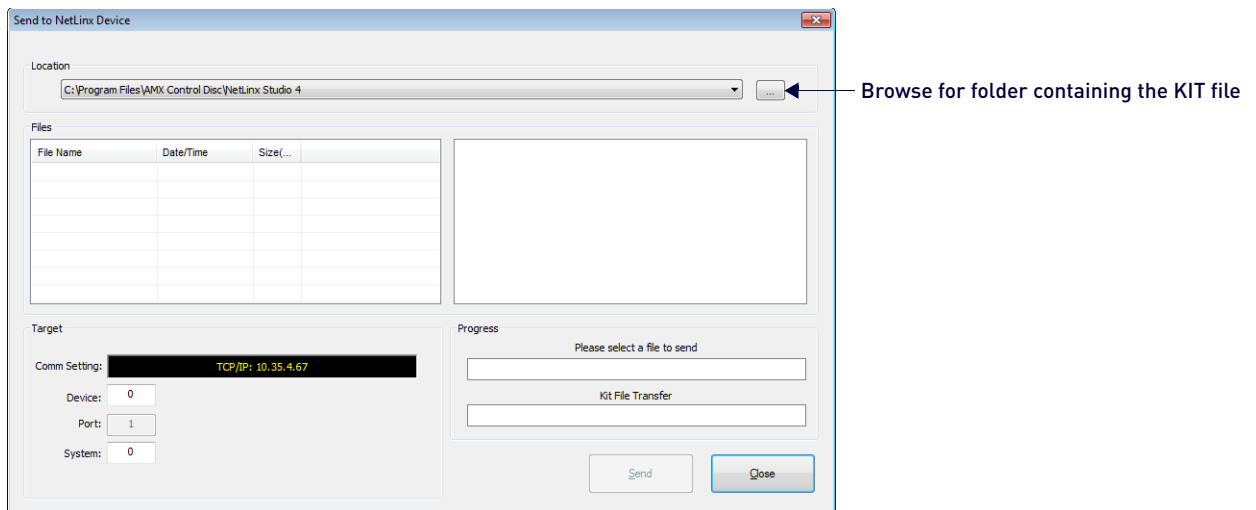

FIG. 122 Send To NetLinx Device dialog (NetLinx Studio)
2. In NetLinx Studio, choose **Tools > Firmware Transfers > Send to NetLinx Device** to open the Send to NetLinx Device dialog (FIG. 122):